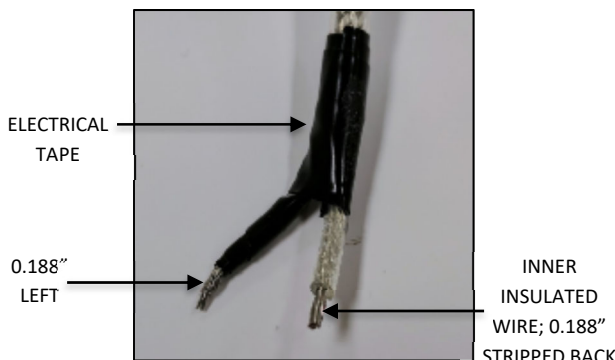
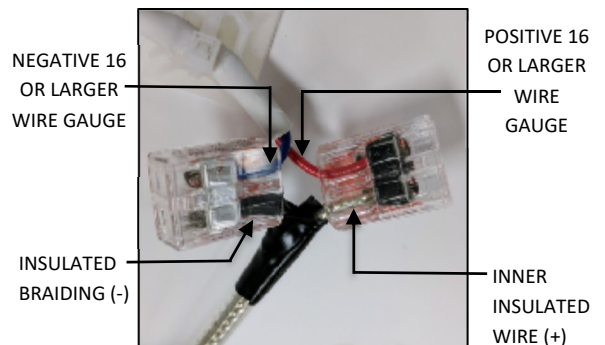

FIG. 28
FIG. 29
- Using electrical tape, insulate the twisted strands leaving 0.188" exposed for connections. Strip off 0.188" of the inner insulation as you normally would for 18AWG stranded core wire as shown in FIG. 28 below. Connect the inner insulated wire (+) to the positive 16 gauge or larger wire ran in step 5 at the hanging bracket and Connect the outer braiding (-) to the negative 16 gauge or larger wire ran in step 5 at the hanging bracket FIG. 29 below.